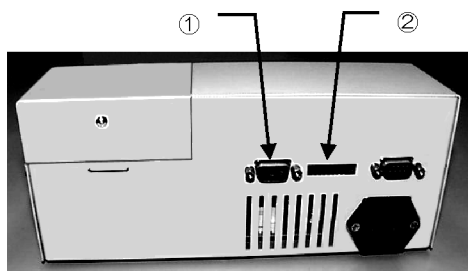

Fig. 1-1
2. Insert the end of the serial cable D-SUB 9-pin into the connector ① on the MM6-CAL22 rear panel (Fig. 1-1) and the other end to the parallel port of the computer. (See your computer manual for the location to be connected to.)
The following tables show the details of the DIP switch (Fig.1-1, ②) tabs and the available communication rates. The settings described here should correspond to the communication settings of the Teaching Editing software (See Section 1-8).